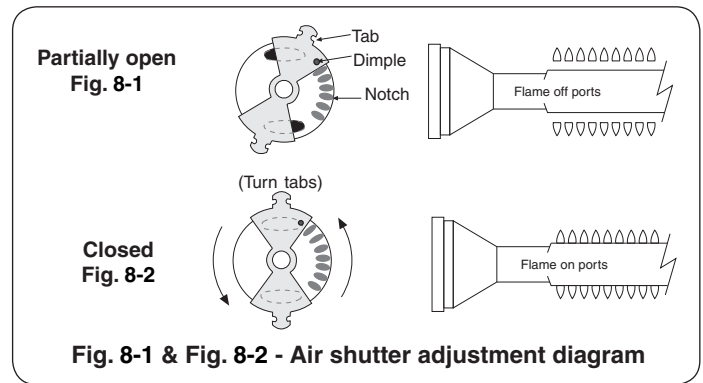

Fig. 8-1 & Fig. 8-2 - Air shutter adjustment diagram
Main burner air shutters are controlled by the two wire levers at the far right side of the cooking grill (see PARTS LIST). The air shutter has a small dimple (see Fig. 8-1) that allows it to lock into notches in the burner face. This prevents the air shutter from moving.
3. After burning for two minutes, open the air shutters, **using the air shutter levers**, until the flames lift off, or appear not to be touching the burners (Fig. 8-1).